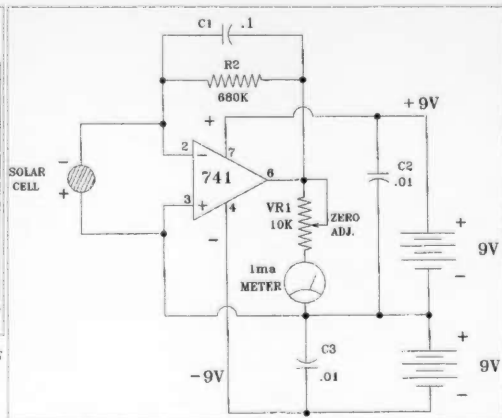

Fig. 4. Schematic diagram of the light meter used to check silver concentration. The circuit measures scattered laser light.
**Fig. 4** shows the schematic diagram of the meter amplifier, while the circuit board pattern and layout is shown in **Fig. 5**. There is nothing critical about the circuit, but note that the solar cell is *extremely* fragile, and you must carefully solder wire leads to each side. Use only small, flexible wire to avoid placing any stress on the solar cell. I used a piece of tiny two-conductor wire from an old earphone. **Fig. 6** shows the method used to measure the laser backscatter.